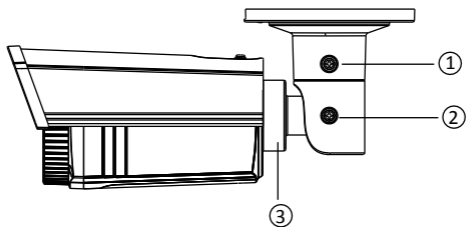

Figure 2-3 3-axis Adjustment
5. Adjust the camera direction (Refer to Figure 2-3).